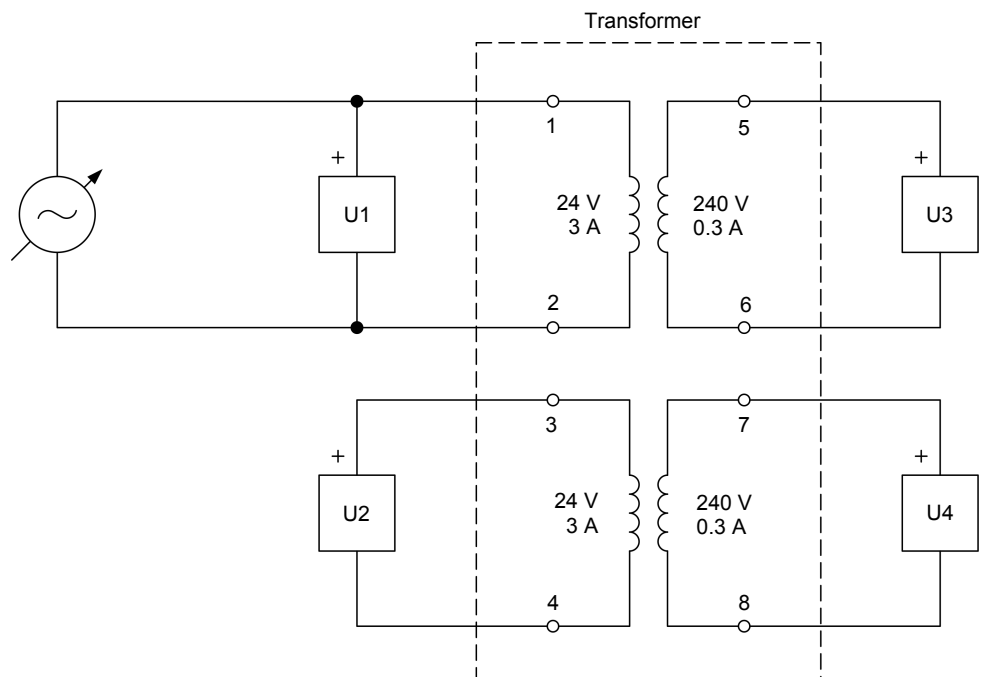

Figure 15. Circuit for determining transformer winding polarity using an oscilloscope.
4. Connect the equipment as shown in Figure 15.